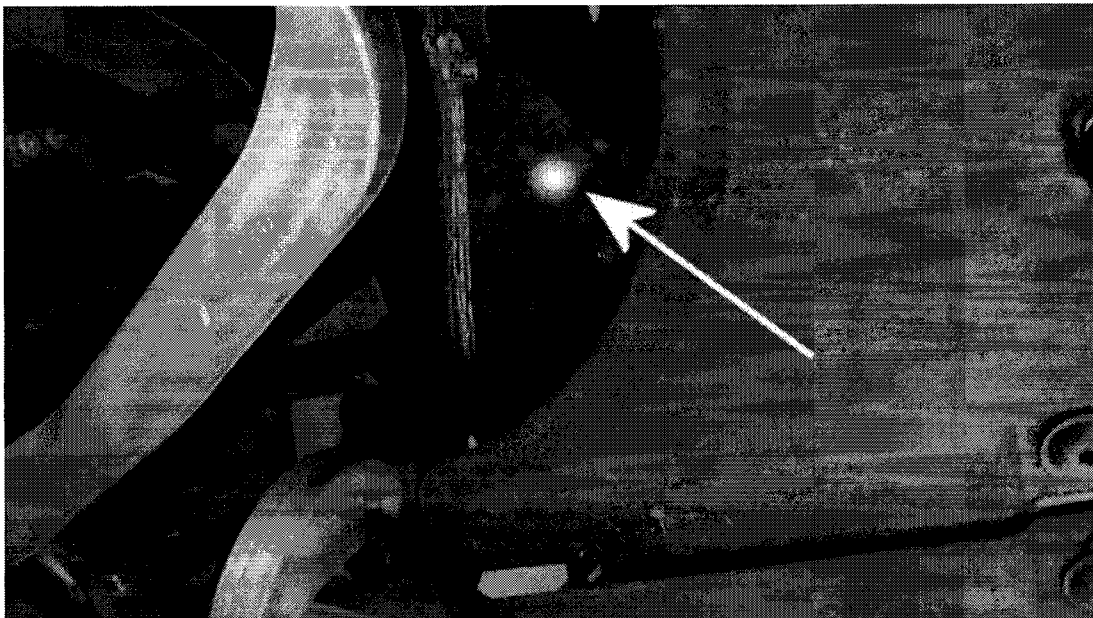

Figure 1
If the vehicle is not already listed as repaired in the "Repair history" (in Elsa pro), check for the campaign identification mark which is a small White paint completion mark located on the left hand lower face of the front sub frame (Figure 1) should neither be evident carry out the required work in accordance with the instructions
-Should no leak be evident, refit the undersheet and place a white paint completion mark as shown in Figure 1 on the left hand lower face of the front sub frame.
White paint completion mark as shown in Figure 1